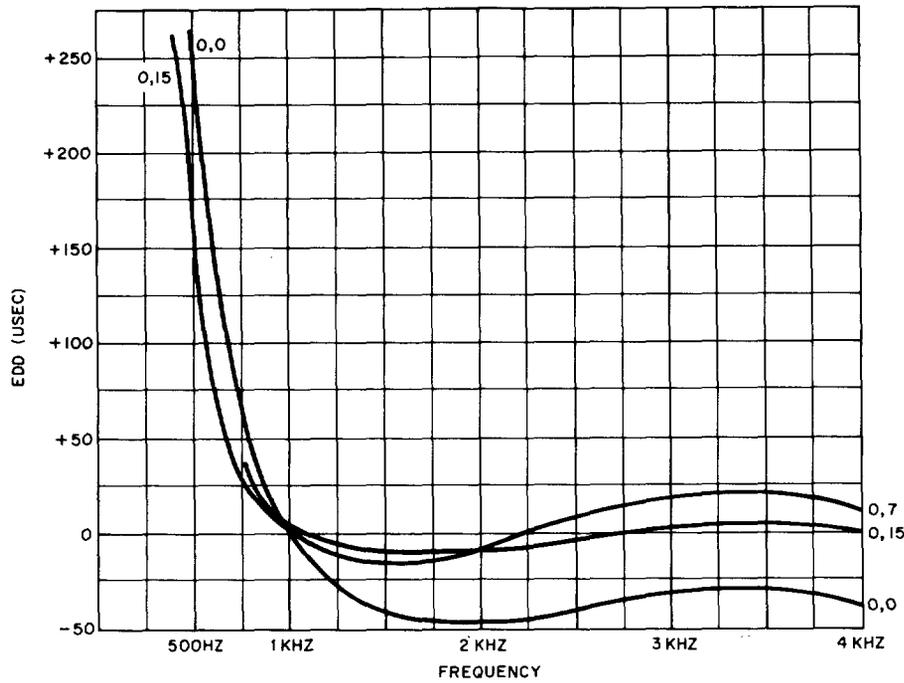
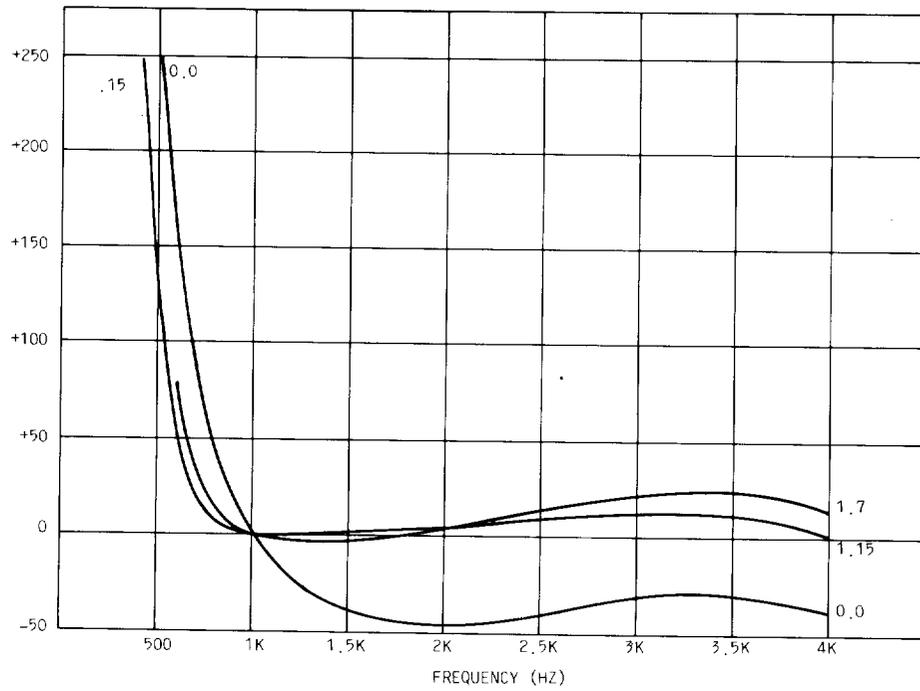
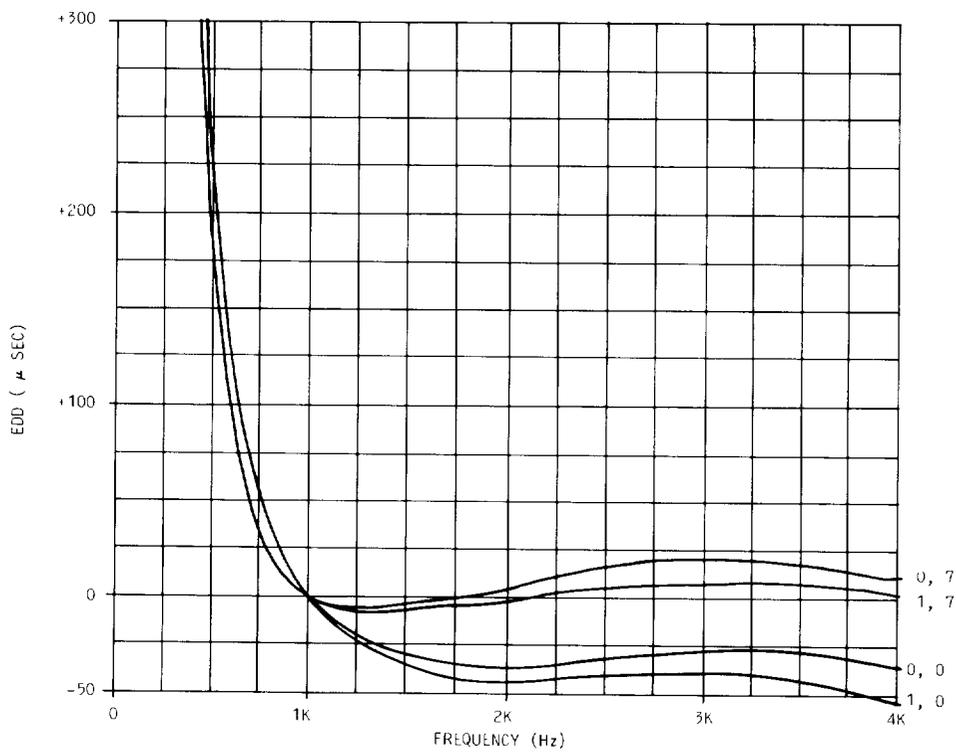

Fig. 12—Envelope Delay Distortion C=0
Fig. 13—Envelope Delay Distortion C=1
Fig. 14—Envelope Delay Distortion, J99343PB, L3
4.04 Figures 12 and 13 give the Envelope Delay Distortion (EDD) for the J99343PB, L1 and L2. Figure 12 shows the EDD for the various equalizer settings with the C switch set to 0. Figure 13 includes the same equalizer settings with the C switch operated. Figure 14 shows the EDD for equalizer settings of the J99343PB, L3 with the A switch set to 0 and 1.